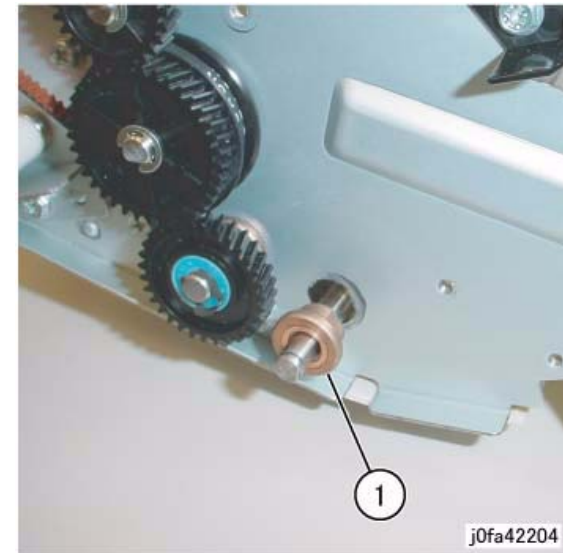

Figure 4 Removing the Bearing
7. Remove the Rear Bearing (Figure 4):